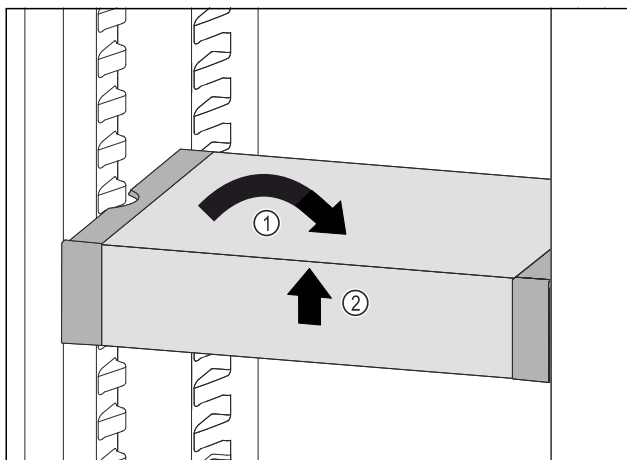

Fig. 197
- Set VarioSafe straight. Fig. 197 (1)
- Lift VarioSafe at the front. Fig. 197 (2)